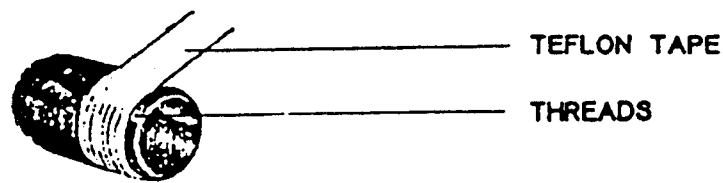

Figure 2-3. Teflon Tape Application.
d. Application of Teflon Tape: Apply teflon tape (figures 2-3 and 2-4) to both 3/8" pipe nipples of the Steam Collection Assembly. Apply Teflon tape starting at the third thread from the end (skip the first two) and wind clockwise.